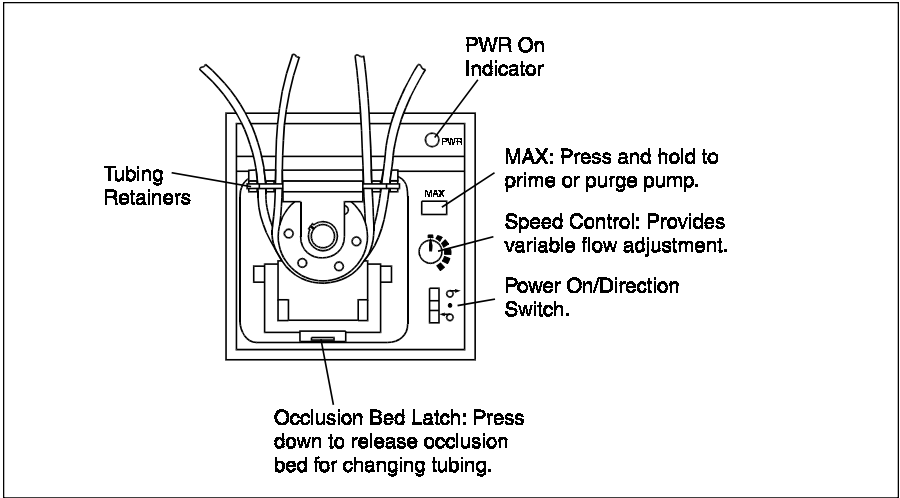

Figure 2. Pump — Front Panel
The single-turn, adjustable Speed Control, Figure 2, provides variable flow operation. The green PWR On indicator lights whenever the pump is operating. The Power On/Direction Switch turns power on when either clockwise or counterclockwise pump rotor direction is selected. The MAX Button is used for priming and purging and operates the pump at maximum speed while depressed.
1. Place the Power On/Direction Switch, Figure 2, in the center (Off) position.